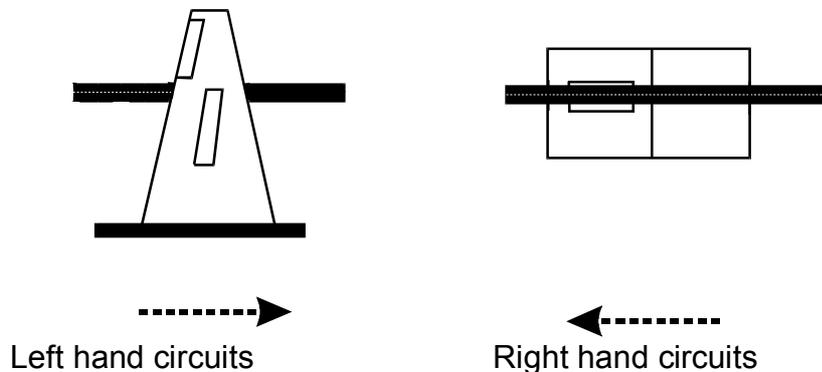

Fig 14. Checking distance out from runway.
- (1) Establish straight and level flight, parallel to the runway at the correct distance out. For left hand circuits the runway should be at the end of your airbrake box. For right hand circuits it should appear midway through your instructor's DV panel. (See Fig 14). Select a suitable reference point to assist in maintaining the heading.
- (2) Continue with LAI scan.
- (3) Use full power or airbrake to maintain height within 100 ft of datum.